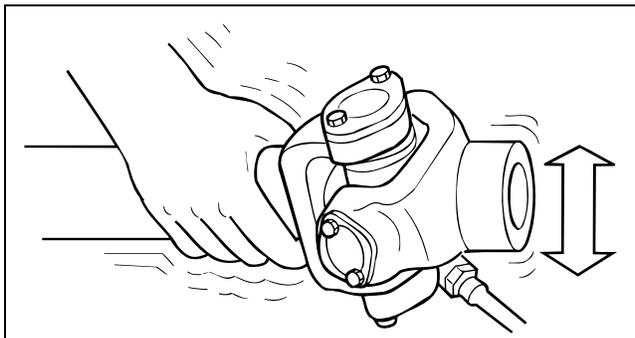

Figure 5.7
- A. Move the assembly UP-AND-DOWN or SIDE-TO-SIDE while you apply grease gun pressure. Figure 5.7.